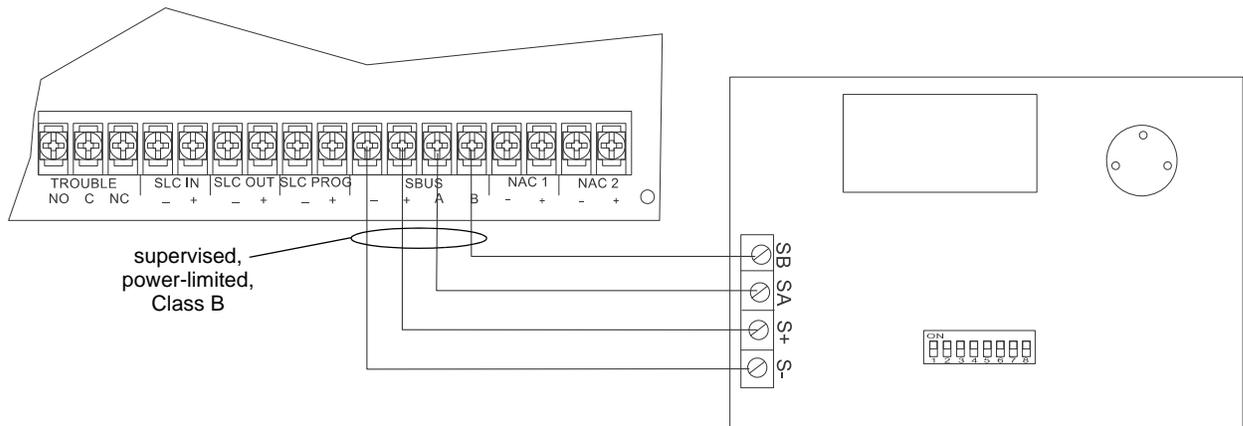

**Figure 4.21 Flush Mounting the Backbox**
3. Fit the annunciator backbox into the hole and stabilize with mounting wires. Angle the mounting wires into the first hole past the sheet rock. Secure the wires behind the screws as shown in Figure 4.21. When all four wires are in place, the backbox should fit snugly into the hole in the sheetrock.